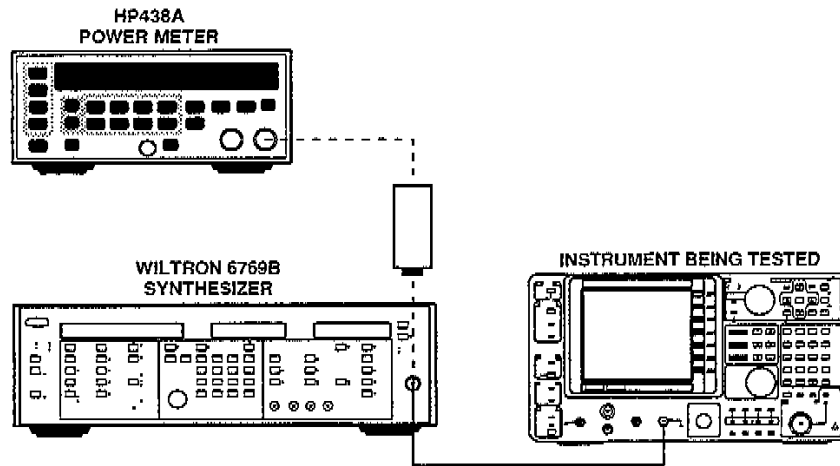

Figure 3-31. External Mixer Input Correction Equipment setup.
2. Using an appropriate 50 Ω cable, connect the synthesizer signal to the EXTERNAL MIXER input as shown in Figure 3-31.
1. Connect the test setup as shown in Figure 3-31 (previous step)